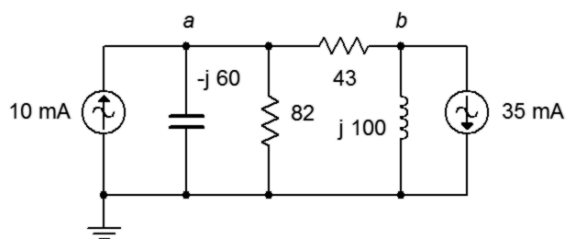

Figure 5.9
17. For the circuit of Figure 5.9, use Superposition to find v_a and v_b . The sources are in phase.
18. For the circuit of Figure 5.9, use Superposition to find the currents through the inductor and capacitor. The sources are in phase.